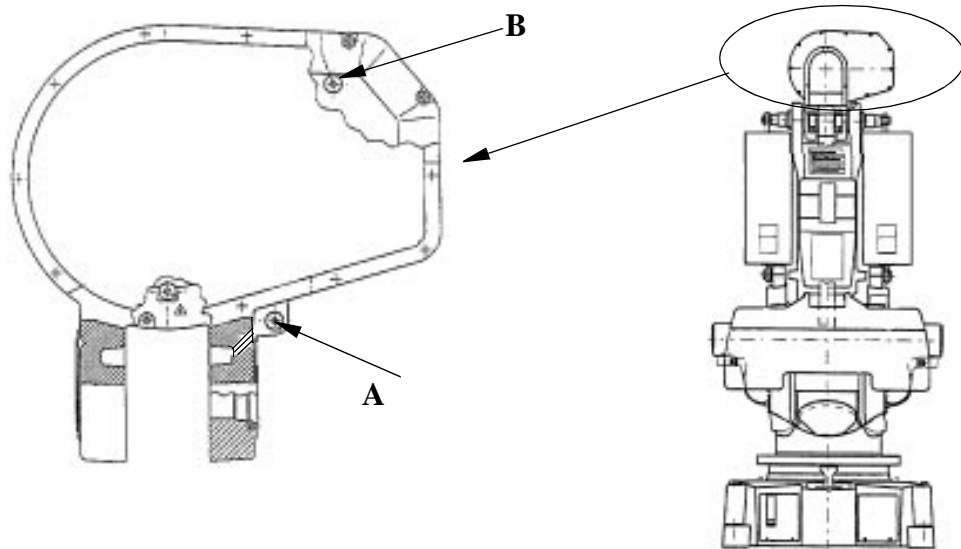

Figure 8 Drain hole axis 4
- Remove the plugs (A) and (B).
- Drain off the old oil through the hole (A). See Figure 8.
- Refit the drain plug (A).
- Fill up with new oil until the oil level reaches the lower edge of the filling hole (B).